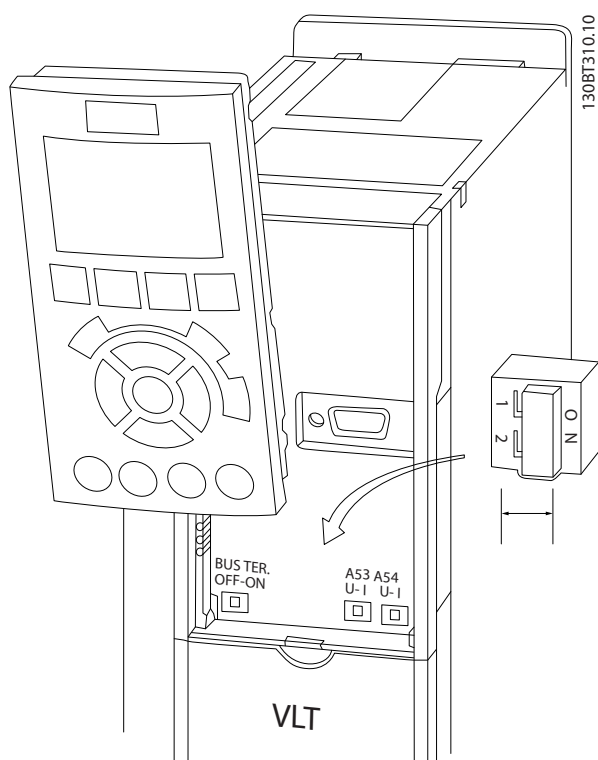

Figure 2.26 Location of Terminals 53 and 54 Switches
- The switches are accessible when the LCP has been removed (see *Figure 2.26*). Note that some option cards available for the unit may cover these switches and must be removed to change switch settings. Always remove power to the unit before removing option cards.